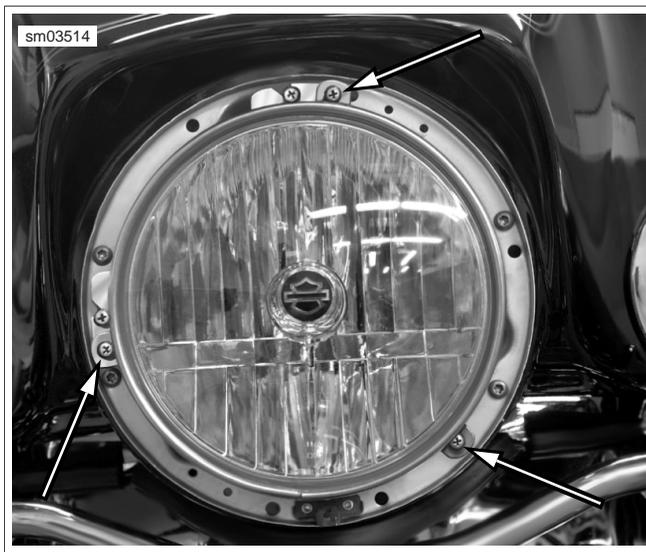

Figure 8-18. Remove Retaining Ring Screws (FLHX, FLHT/C/U)
- b. **FLHX, FLHT/C/U:** Remove three screws from retaining ring and carefully pull headlamp assembly from outer fairing. See Figure 8-18.
- b. **FLHX, FLHT/C/U:** Align holes in retaining ring of headlamp assembly with those in outer fairing (headlamp door bracket at bottom). Install three screws and alternately tighten to 23-28 **in-lbs** (2.6-3.2 Nm). See Figure 8-18.